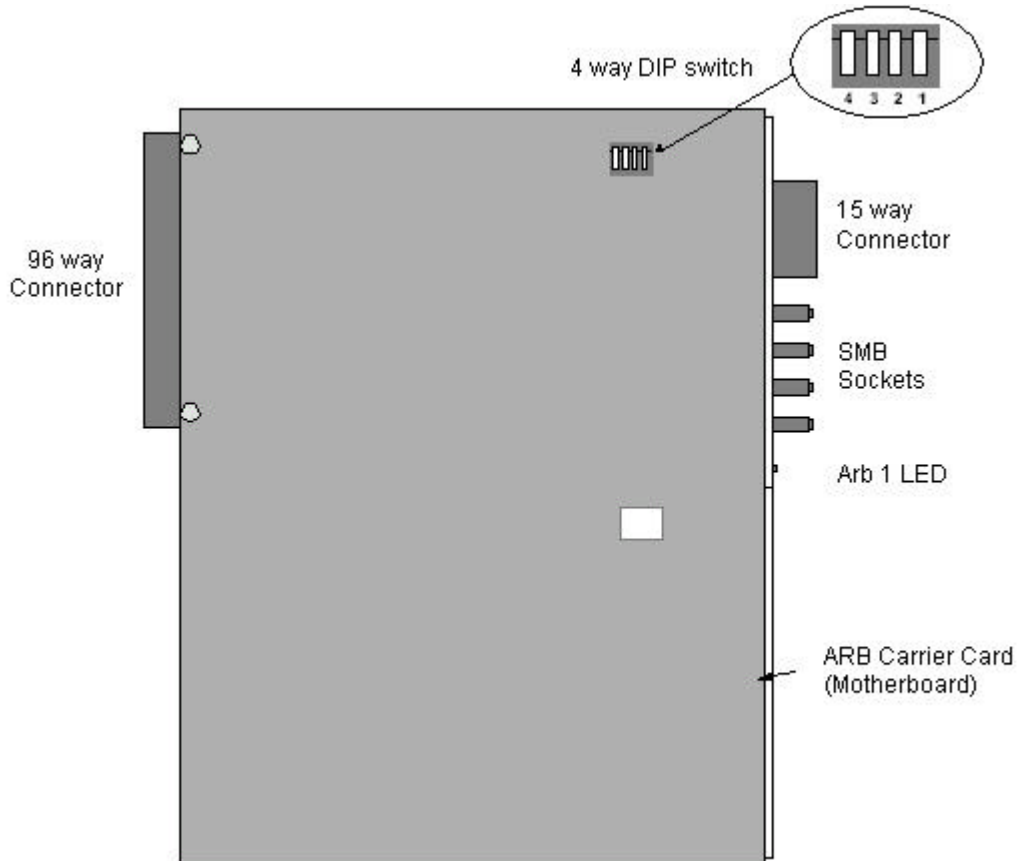
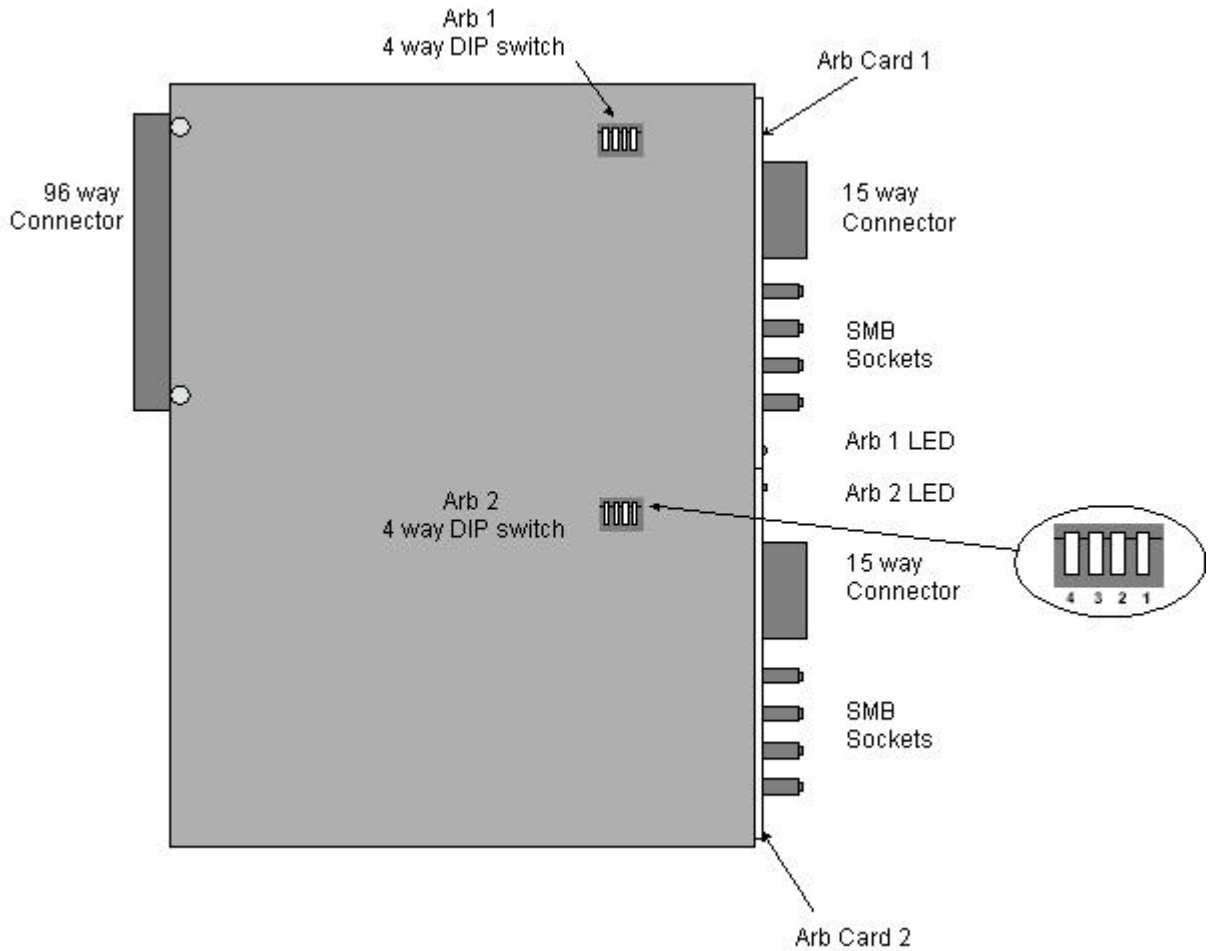

Figure 4.3 – ARB 5220 Solder View showing 4 way DIP switch
Figure 4.4 – ARB 5221 Solder View showing 2x 4 way DIP switches
1. Locate the 4 way DIP switch on the solder side of the ARB 5220 Carrier Card, refer to figure 4.3.
1. Locate the 4 way DIP switches on the solder side of the ARB 5221 Carrier Card, refer to figure 4.4.
2. Locate the 4 way DIP switches on the solder side of the ARB 5220 Carrier Card, refer to figure 4.3 (figure 4.4 if the module is an ARB 5221). Record the CAN address for each arb card.
2. Locate the 4 way DIP switches on the solder side of the ARB 5220 Carrier Card, refer to figure 4.3 (figure 4.4 if the module is an ARB 5221).